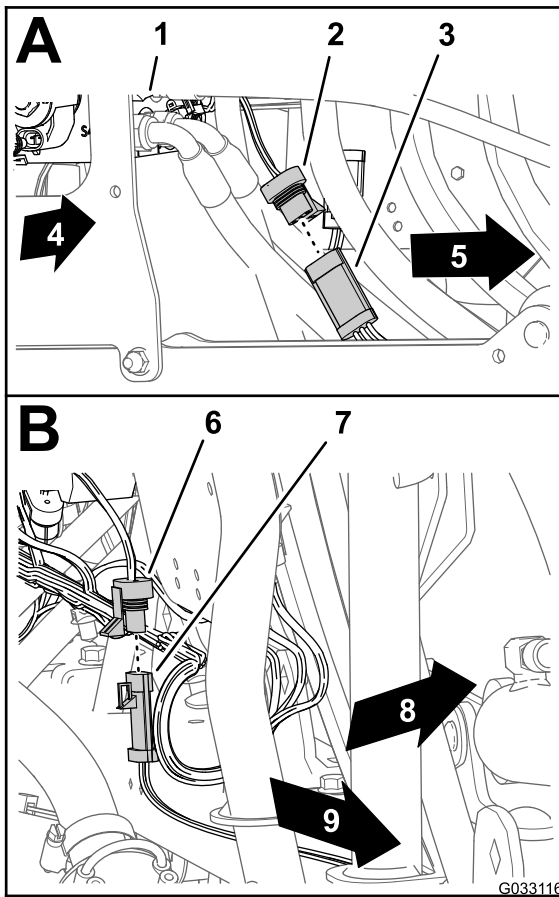

Figure 144
1. Connect the 3-socket connector of the sonic boom wire harness to the 3-pin connector of the cable for the right ultra-sonic sensor (A of Figure 144).
2. Connect the 3-socket connector of the sonic boom wire harness from the 3-pin connector of the cable for the left ultra-sonic sensor (B of Figure 144).